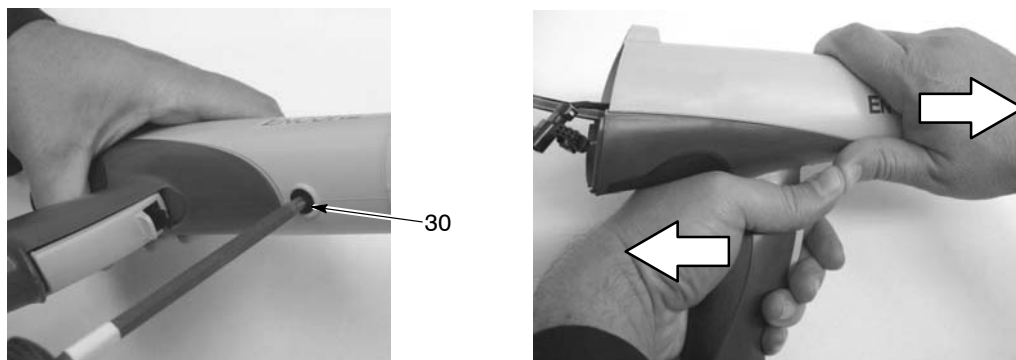

Figure 4 Removing the Gun Body from the Handle
2. See Figure 4. Remove the black nylon screw (30) from the gun body.